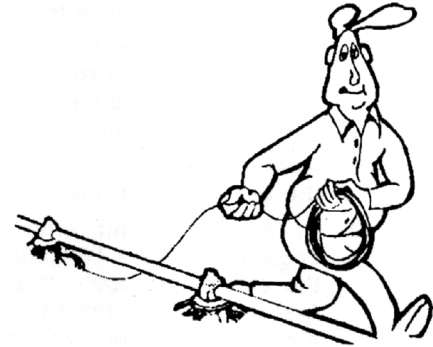

Figure 45. Unrolling Cable
6. Unroll the bulk anti-roost cable. Note: If the cable is unrolled as shown in **Figure 45.**, taking 5 loops of the coil with one hand, then changing hands to remove 5 loops as it is unrolled, it will lie flat during installation.